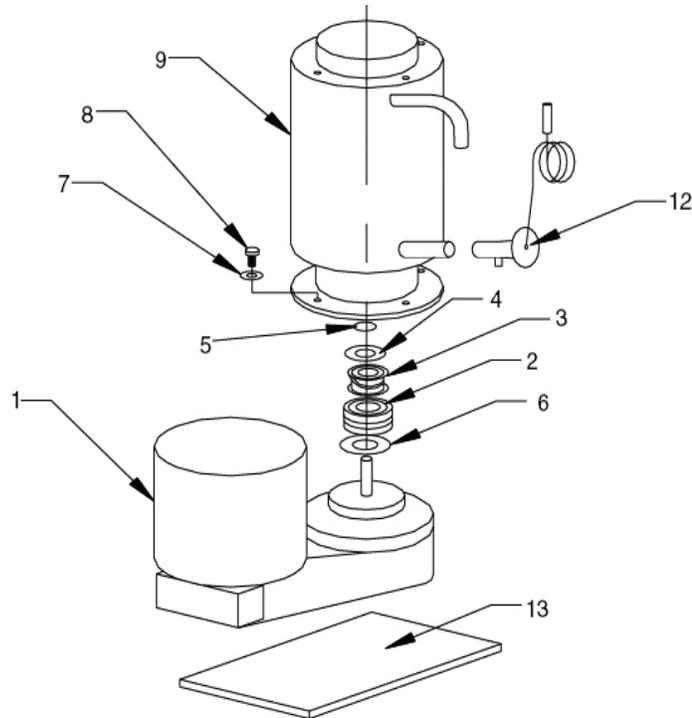

Figure 1. Front end Assembly, 1000 Series
1. Assemble the gear motor to auger seals to match the diagram shown in Figure 1.